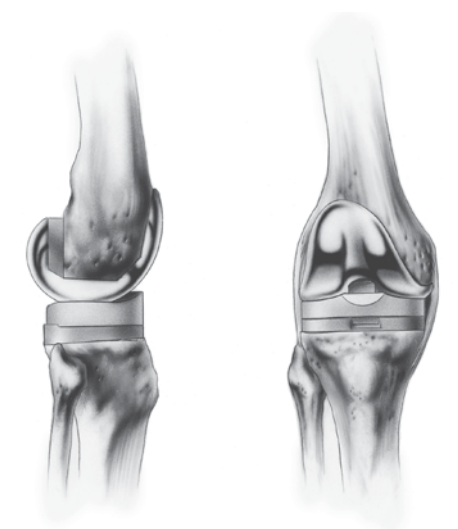

Fig. 31
- Ensure that the leg has the desired valgus alignment with adequate varus-valgus stability (Fig. 31).